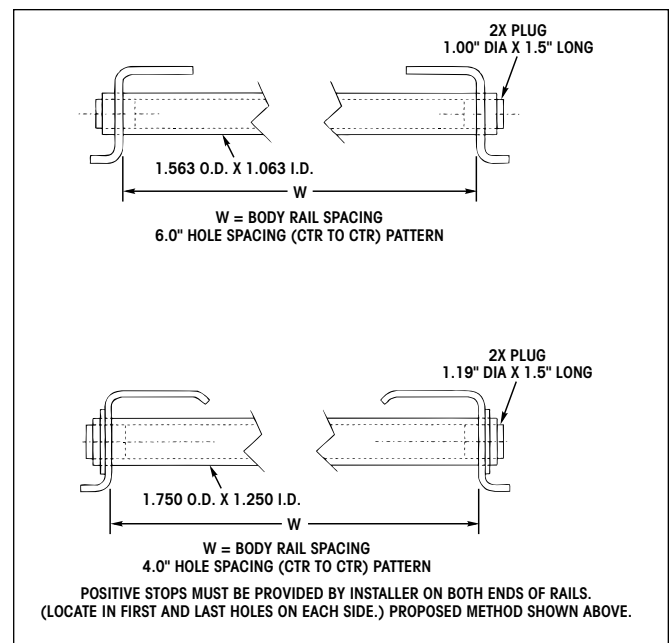
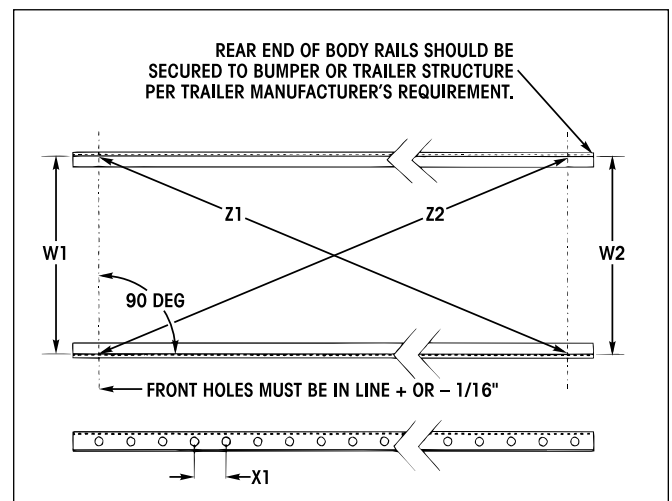
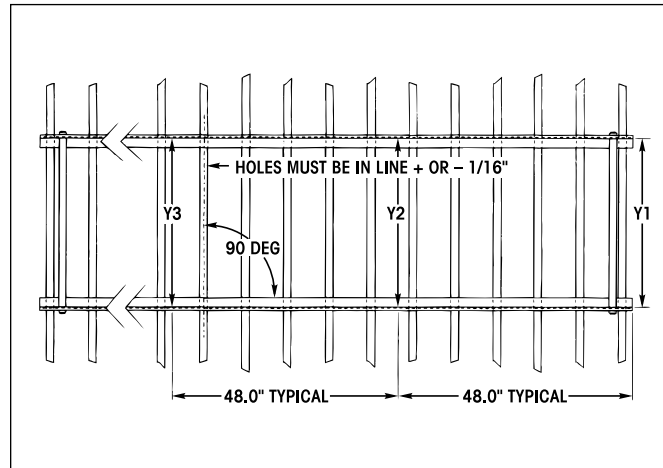
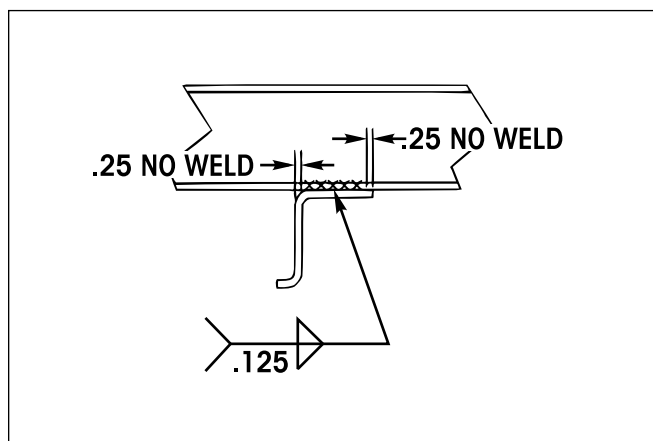

Figure 30. Positive stops installation
Figure 31. Body rail spacing and diagonals
Figure 32. Spacing measurements
Figure 37. HK slider recommended body rail attachment
NOTE: A forward and rearward positive stop must be provided and installed by the trailer OE or other slider installer on the body rail ends. (See Figure 30 for Hendrickson’s recommended method.)
2. Using a flexible rule, measure the body rail hole spacing (Figure 31, dimension X1). Both body rails and slider box should possess the same hole spacing.
3. Using the same measuring instrument, measure the body rail width at the most forward and rearward location. Adjust rails accordingly to achieve the same spacing (Figure 31) that equals that of the body rail clearance specification dimension located on the overall slider assembly drawing (supplied with the slider system). Be sure that the body rail clearance specification corresponds to the rail spacing in Figure 30.
4. Measure both body rail diagonals (from hole centers) (Figure 31). If diagonals are unequal, adjust as required. Equal “W” and “Z” measurements will position the body rails correctly, guaranteeing parallel body rail spacing and coaxial hole alignment.
5. Insert positive stops in the most forward and rearward hole of the body rails and tack weld in place (Figure 30).
- Starting from the most rearward location on the body rails, inspect the width measurement approximately every 48" (Figure 32). The value for Y1, Y2 and Y3 comes from the width of the slider box and whether or not shims are present (Figure 30). Adjust accordingly and completely weld the slider body rails to the trailer's crossmembers, as described in the HK SLIDER WELDING PROCEDURES section on page 24 (Figure 37) and welding parameters on page 7.
- Double check body rail spacing (Figure 30).
Starting and stopping points should be no closer than 1/4" from the mating edge of the suspension component and the trailer frame and/or the crossmembers. The procedures illustrated may need to be adapted due to varying trailer designs (Figures 37 and 38).